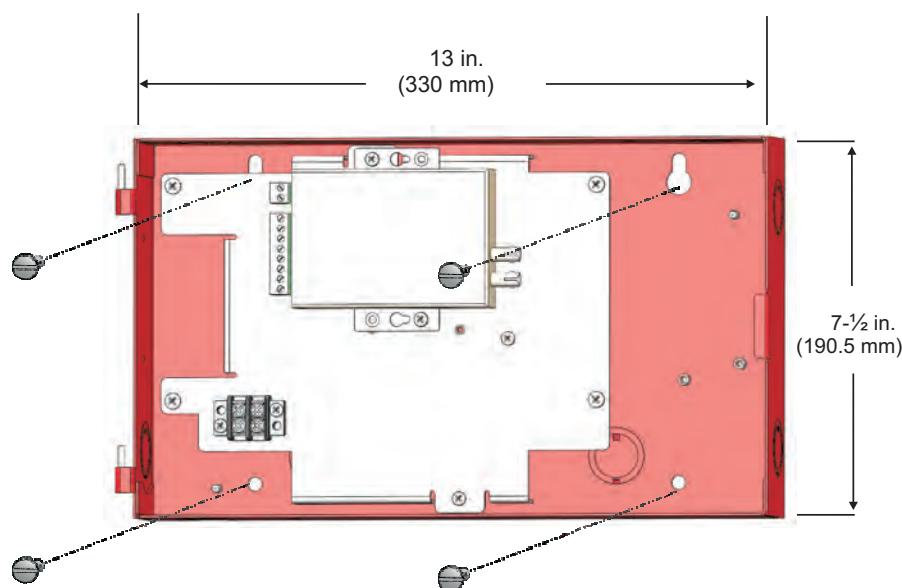

Figure 2-44. Mounting the FOCM Enclosure
1. Mark and pre-drill holes for four mounting bolts using the dimensions shown. Two keyhole slots (at the top) and two holes (at the bottom) serve as a template for surface mounting. Refer to Figure 2-44 below.